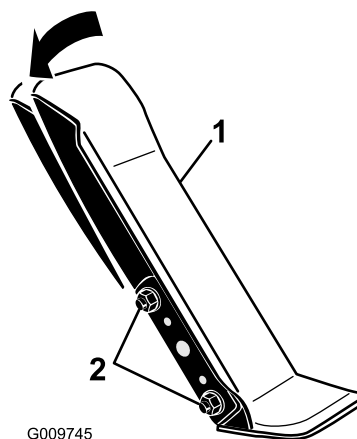

Figure 68
1. Loosen the 2 nuts and bolts securing the left side of the traction pedal to the bracket (Figure 68).
2. Pivot the pedal to the desired operating angle and tighten the nuts (Figure 68).